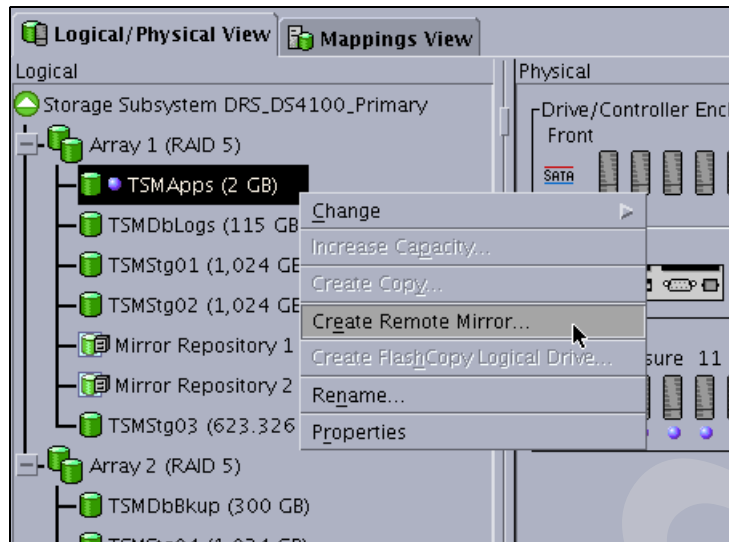

Figure 13-26 Mirroring a logical drive
1. To launch the Create Remote Mirror Wizard, select a logical drive in the Logical View of the designated primary storage subsystem and then select the **Logical Drive** → **Remote Mirroring** → **Create** pull-down menu option or select **Create Remote Mirror** from the context menu (Figure 13-26 on page 551).